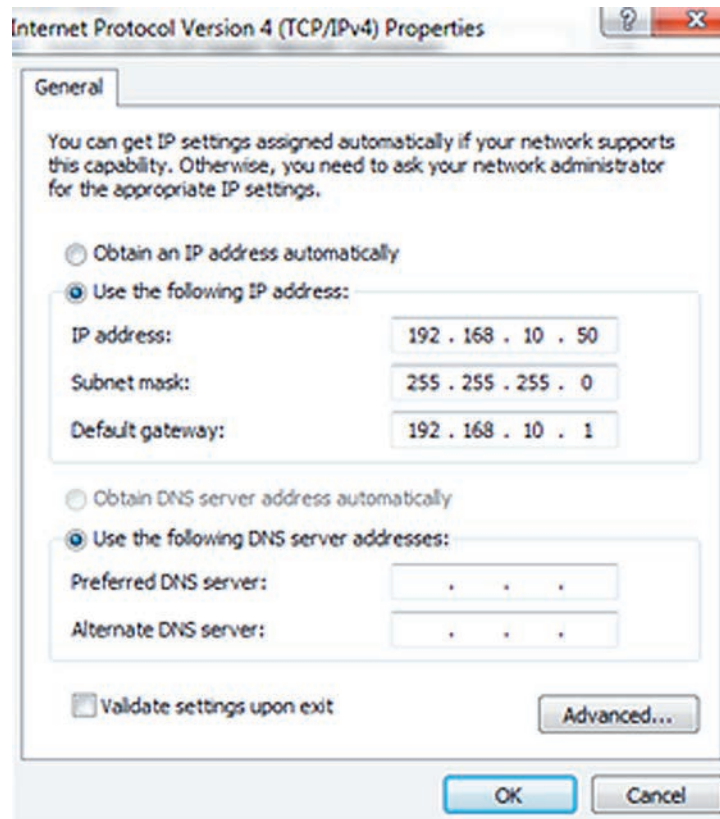

Figure 9. Internet Protocol Version 4 (TCP/IPv4) Properties dialog box.
STEP 22. The Internet Protocol Version 4 (TCP/IPv4) Properties dialog box will open. See Figure 9. Left click on the **Use the Following IP address** option.